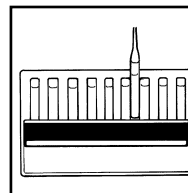

Figure 7
b. **High Range Comparator (fig. 7):**